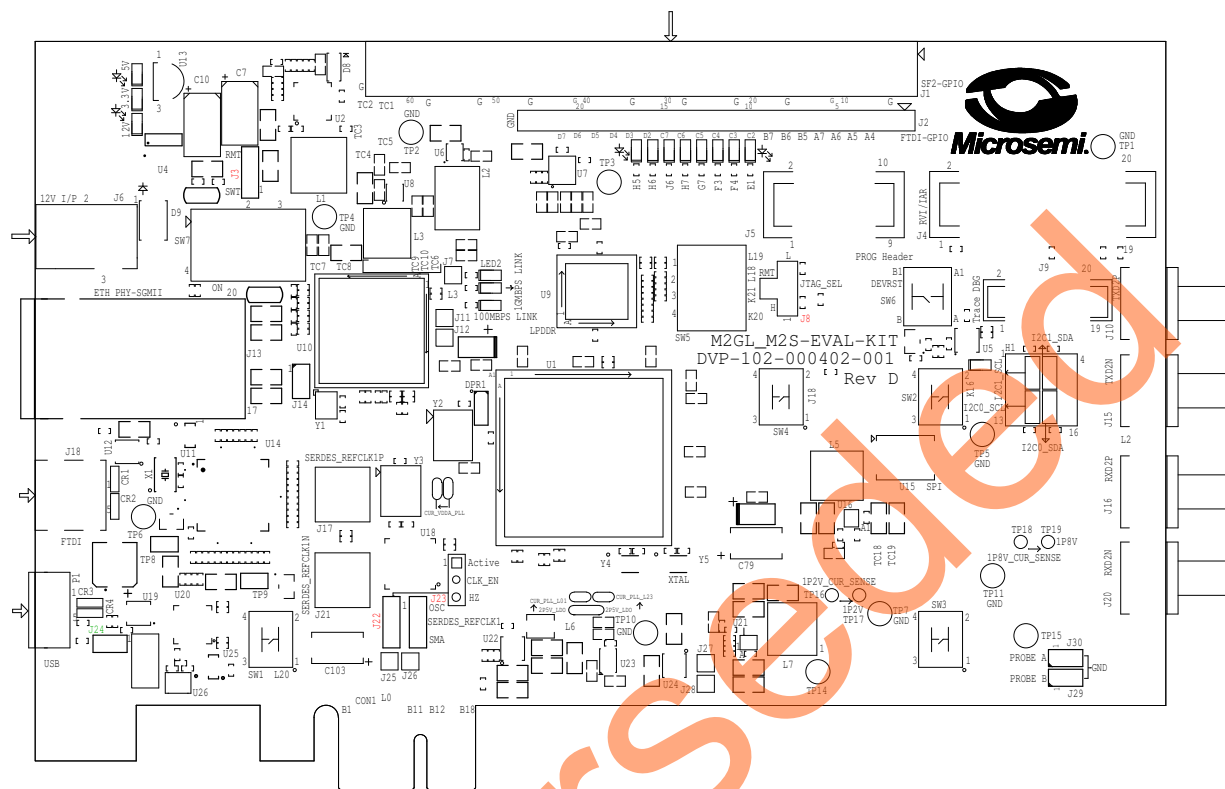

Figure 14 • SmartFusion2 Security Evaluation Kit Silkscreen Top View
Figure 14 shows the jumper locations in the SmartFusion2 Security Evaluation Kit board.
- The locations of the jumpers in Figure 14 are searchable.